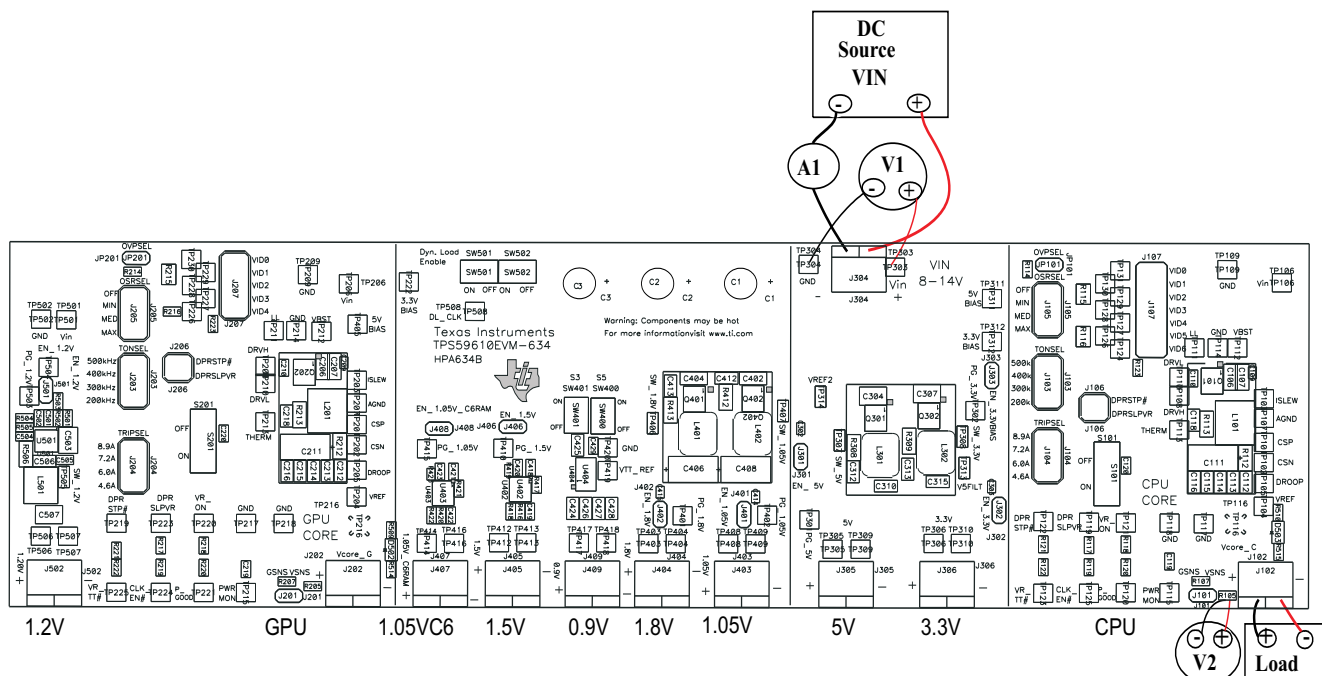

Figure 7. TPS59610EVM-634 Recommended Test Setup
**Voltage Source VIN:** The input voltage source VIN must be a 0-V to 14-V variable dc source capable of supplying 10 Adc. Connect VIN to J304 as shown in Figure 7.
Figure 7 is the recommended test setup to evaluate the TPS59610EVM-634. Working at an ESD workstation, ensure that wrist straps, bootstraps, or mats are connected referencing the user to earth ground before handling the EVM.
1. Prior to connecting the dc input source VIN, it is advisable to limit the source current from VIN to 10 A maximum. Ensure that VIN is initially set to 0 V and connected as shown in Figure 7.
2. Connect a voltmeter V2 at J101 to measure CPU 1-Vcore voltage as shown in Figure 7.